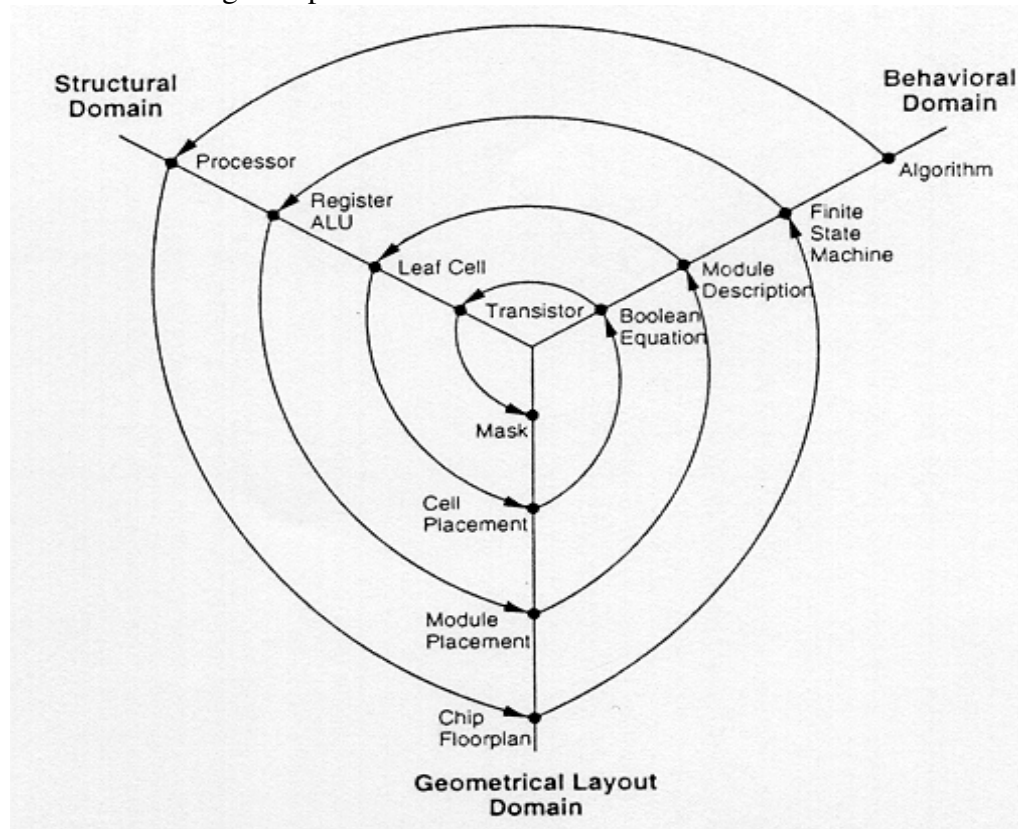

Figure 1. Typical VLSI design flow in three domains(Y-chart)
- Y-Chart (first introduced by D. Gajski) as shown in Figure1 illustrates the design flow for most logic chips, using design activities.